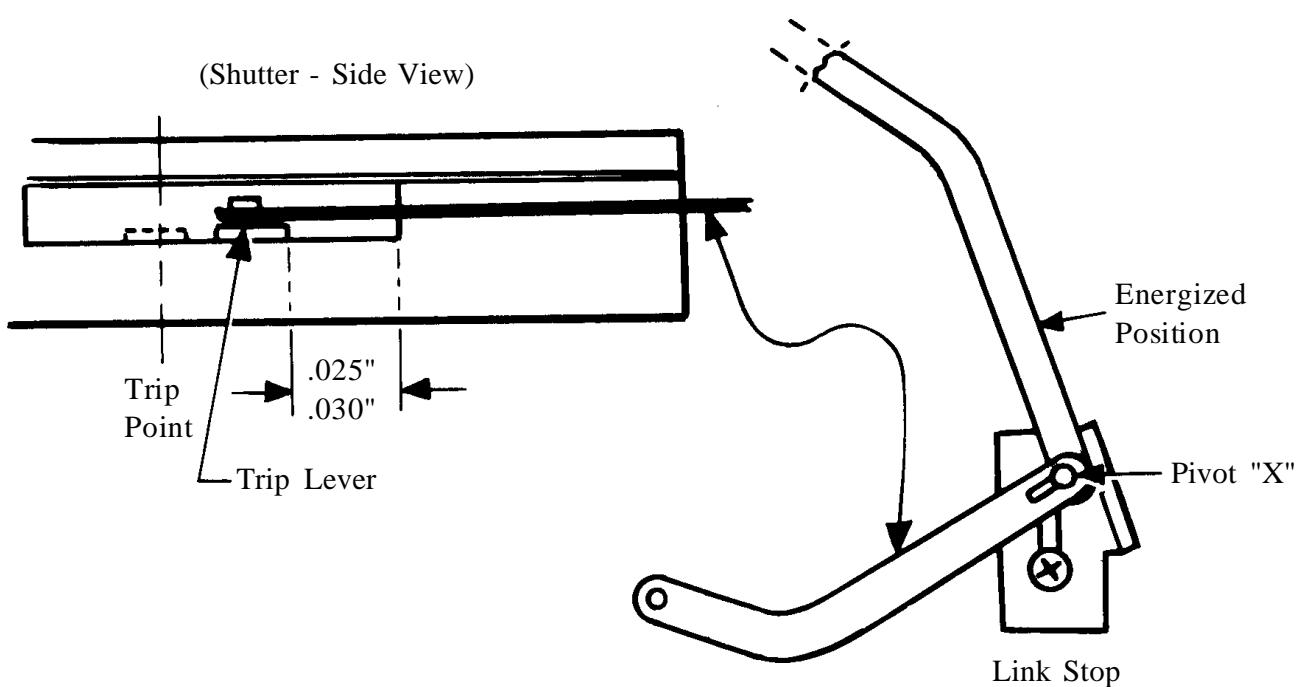

Figure 4-32 Setting Shutter Linkage
- 1.1 Loosen screwholding Shutter Link Stop and adjust its position to allow a gap of approximately 0.025" - 0.030" between the Shutter Trip Lever and end of the opening in the Shutter housing. (Fig. 4-32)